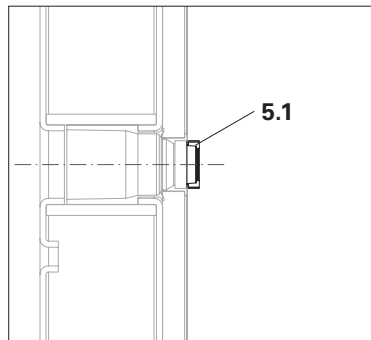

Fig. A21.04a
1. Position a new washer (**5.1**) at the opening. (Fig. A21.04a)